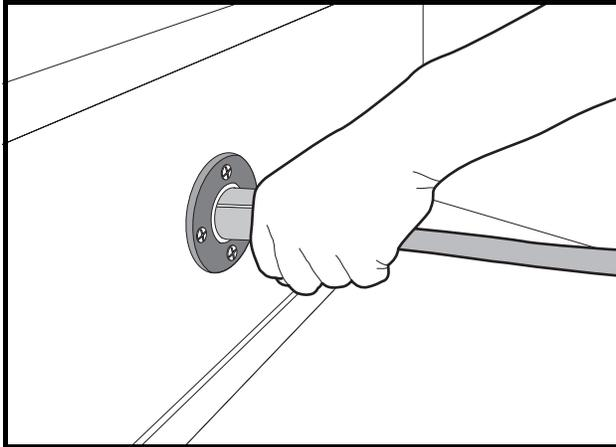
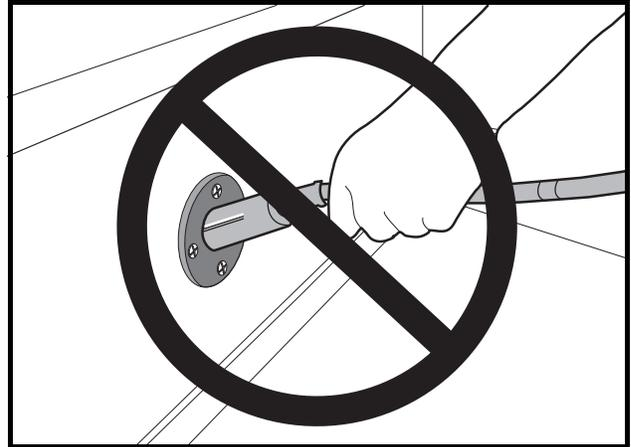

Figure 8-3 Charger Receptacle
Figure 8-4 Incorrect Charger Cord Removal
- The battery charger DC plug must be pulled slowly from the receptacle (Figure 8-3, Page 8-7). Jerking or pulling the DC cord out quickly could cause arcing that could damage the plug and receptacle and could cause batteries to explode (Figure 8-4, Page 8-7).
- Do not rock or bend the plug. To connect the charger plug to the vehicle receptacle, grasp the plug handle and push the plug straight into the receptacle (Figure 8-3).
- Do not pull on the DC cord (Figure 8-4). Do not twist, rock or bend the plug. To disconnect the charger plug from the vehicle receptacle, grasp the plug by the handle and pull the plug straight out of the receptacle.
2. Connect the charger DC plug to the vehicle charger receptacle located on the seat support panel (Figure 8-3, Page 8-7). The charger will activate automatically within 2 to 15 seconds after the DC plug is connected. **See following WARNING.**
When inserting the DC plug into the vehicle receptacle, align the raised guide on the plug with the guide slot in the receptacle and slowly push the plug straight in (Figure 8-3, Page 8-7). To disconnect the plug from the vehicle, firmly grasp the plug, not the cord (Figure 8-4, Page 8-7), and slowly pull plug straight out. See following **WARNING** and **CAUTION**.